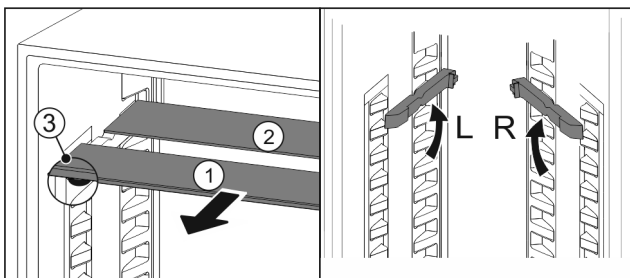

Fig. 90
- Pull the glass panels out Fig. 90 (1) from the front, one at a time.
- ▷ The glass panel Fig. 90 (1) with the trim strip is at the front.
- ▷ The stops Fig. 90 (3) point downward.